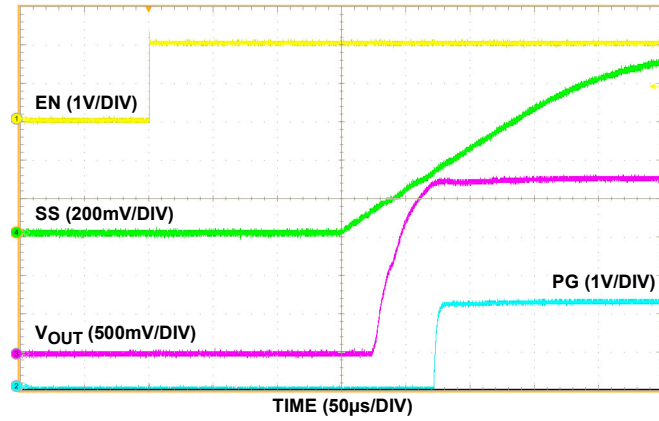

FIGURE 14. ENABLE START-UP SS CAP 1nF
If the current limit for inrush current is acceptable in the application, do not use the soft-start (SS) feature (leave the SS pin open). The soft-start circuit controls the rate at which the output voltage comes up to regulation at power-up or LDO enable. The external soft-start capacitor always gets discharged to ground pin potential at the beginning of start-up or enabling. After the capacitor discharges, it will immediately begin charging by a constant current source. The discharge rate is the RC time constant of R_{PD} and C_{SS} . Refer to Figures 14 through 18 in the “Typical Operating Performance Curves” beginning on page 8. R_{PD} is the ON-resistance of the pull-down MOSFET, M8. R_{PD} is typically 323 Ω .